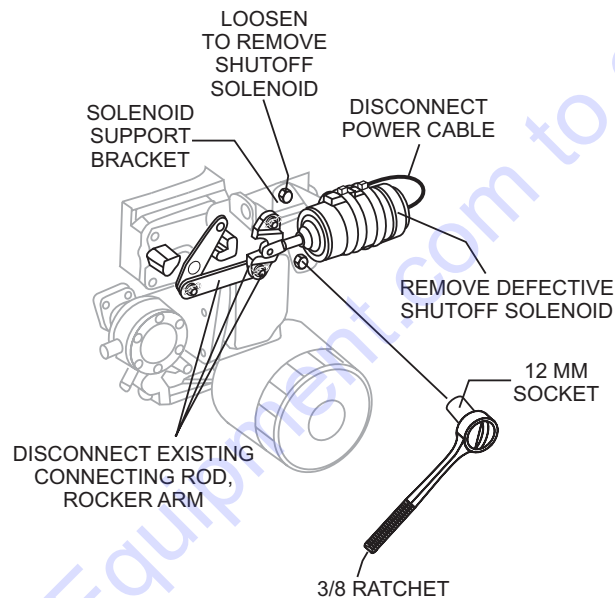

Figure 3. Shutoff Solenoid Removal
2. Disconnect power cable (Figure 3) from defective shutoff solenoid. Cut any tie-wraps that may be securing power cable.
3. Using a 3/8-inch ratchet with a 12 mm socket, remove the bolts (2) that secure the shutoff solenoid (Figure 3) to the engine. Remove defective shutoff solenoid from machine.